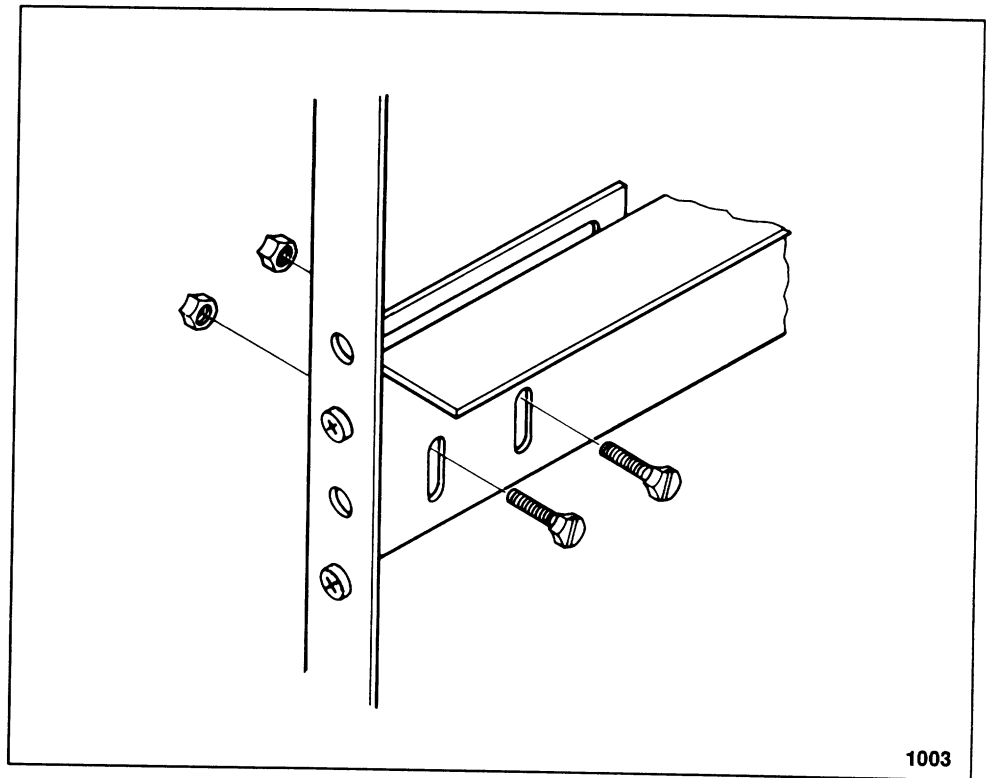

Figure 2-3 *Support Rail Installation*
2. Secure the two support rails (right and left) to the support brackets as shown in figure 2-3, using the nuts and bolts provided. Install the four slotted hex-head bolts and locknuts in each support rail. Position the support rails so their upper edges are flush with the upper edges of the brackets and their forward edges are flush with the front RETMA rails. Torque the bolts to 36 inch-pounds.